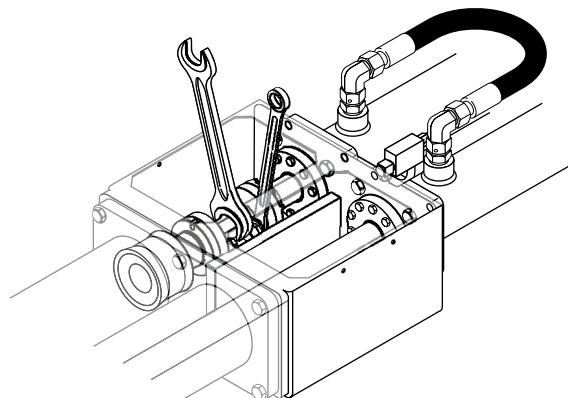

Figure 19
5. Using the 50-mm open-end wrench and 24–30 mm box-end wrench provided with the unit, place the 55-mm wrench on the spacer coupling to hold the assembly from turning. Use the 24–30 mm box-end wrench to unscrew the four M20 bolts that hold the assembly together (Figure 19).